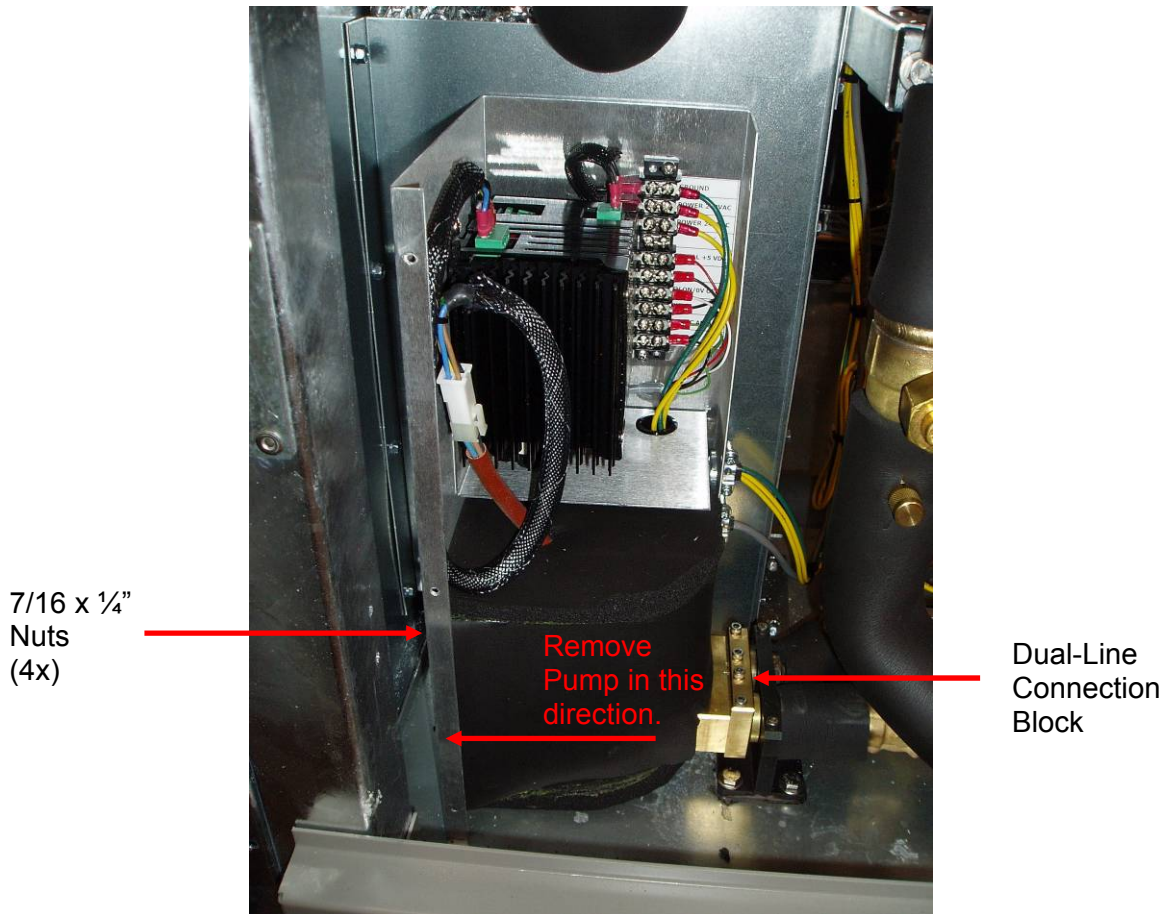

Figure 21 – Refrigerant Pump & Inverter Assembly
6. Unbolt (4) 7/16 x 1/4" NUTS from PUMP to PUMP/INVERTER CASE (reference Figure 21).
7. Remove (4) 9/64" hex stainless SCREWS from brass DUAL-LINE CONNECTION BLOCK (refer to Figure 21).
8. Carefully ease REFRIGERANT PUMP and HOUSING off to the left of the DUAL-LINE CONNECTION BLOCK (refer to Figure 21).